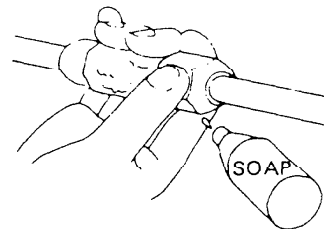

Fig. 13
- f) Leak test the joints with liquid soap. (Fig. 13)